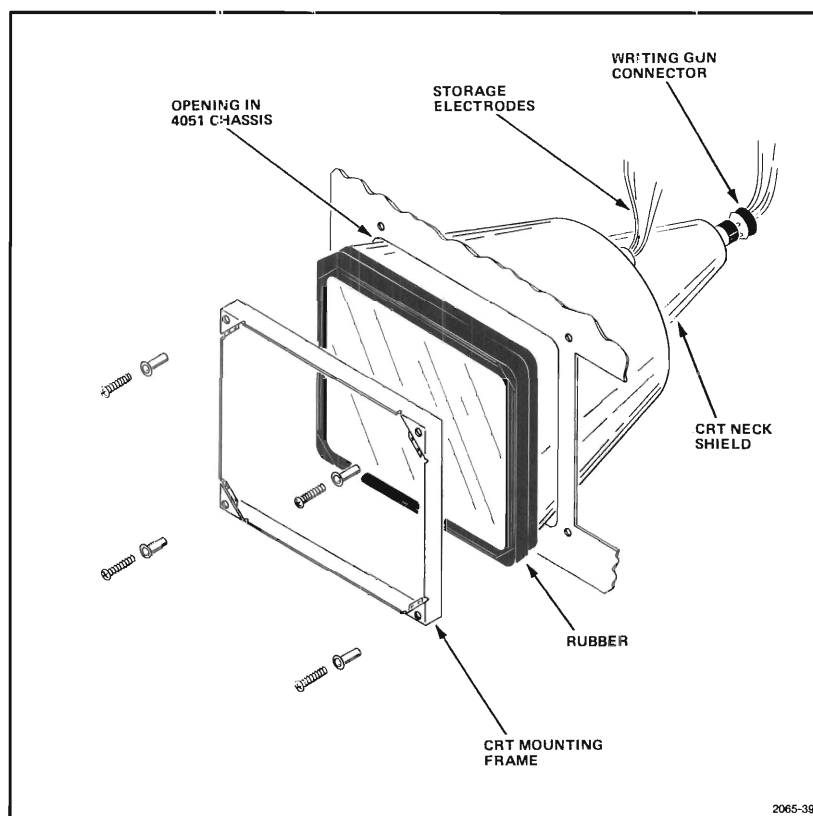

Figure 3-16. CRT Mounting Detail.
5. Remove the four screws that hold the face of the crt in place. Next remove the metal frame. Figure 3-16.